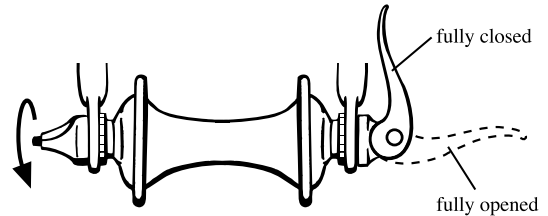

Figure 2
1. Make sure the quick-release lever is in the open position (Figure 2), and place the wheel into the bike fork with the quick-release lever on the non-driveside, seating the wheel axle firmly at the top of the dropouts.
3. Swing the lever into the fully closed position (Figure 2), making sure that it is pointing toward the rear of the bike. The last 30 to 40° of lever movement should require considerable force (between 24–30 lb). If the resistance is less than this, open the quick-release lever and turn the tension-adjusting nut clockwise 1/8 of a turn at a time, until the closing action of the lever requires the recommended amount of force. The wheel is now firmly locked in place.
3. Make sure the quick-release lever is in the open position (Figure 2), and place the wheel into the bike frame with the quick-release lever on the non-driveside, seating the wheel axle firmly at the top of the dropouts.
5. Swing the lever into the fully closed position (Figure 2), making sure that it is pointing towards the rear of the bike. The last 30 to 40° of lever movement should require considerable force (between 24–30 lb). If the resistance is less than this, open the quick-release lever and turn the tension-adjusting nut clockwise 1/8 of a turn at a time, until the closing action of the lever requires the recommended amount of force. The wheel is now firmly locked in place.